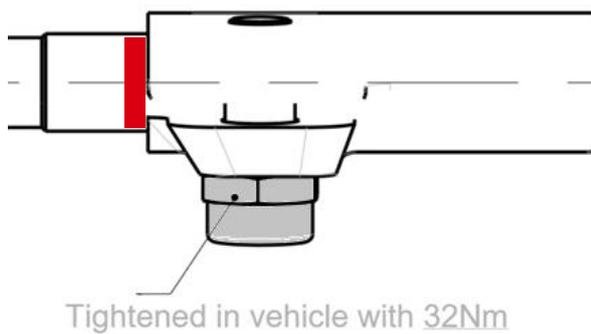

Fig. 6: Clamp-cylinder-hexagon-bolt (2)
2. Mark the position of the old outer ball joint (1) on the thread of the tie rod (4) (see Fig. 6, red position).
3. Unscrew the nut (3) of the outer ball joint (1) according to the vehicle manufacturer's specifications.
4. Hold the tie rod (4) with a wrench and unscrew the clamping bolt (2) at the outer ball joint (1).
5. Unmount the outer ball joint (1) from the tie rod (4) by hand.
6. Mount the **new outer ball joint** (1) incl. the clamp-cylinder-hexagon-bolt (2) to the tie rod (4) by hand till the marked position.
7. Mount the nut (3) of the outer ball joint (1) according to the vehicle manufacturer's specifications.
10. Tighten the clamp-cylinder-hexagon-bolt (2) to **32 Nm ±15%** using a torque wrench.